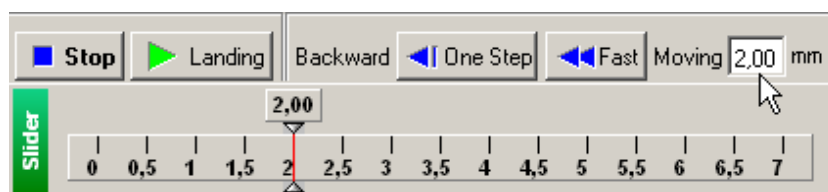

Fig. 12-44
- Double-click in the **Moving** input field of the **Backward** group (Fig. 12-44) on the Control panel of the **Approach** tab to open a slider. Position the slider at the value of 2÷3 mm.